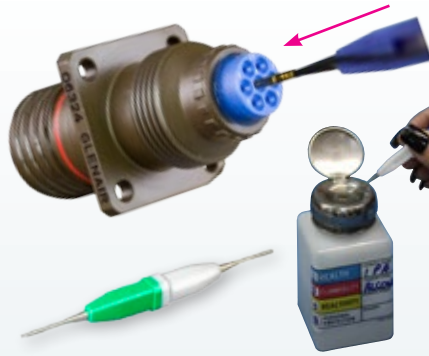

Fig. 17
3. Shrink Boots: Installation of environmental shrink boots requires careful attention to ensure heat-activated adhesives effectively seal the wire-to-connector interface. Complete instructions are found in our boot catalog. The failure to carefully clean and/or abrade cable jacketing is a common source of leakage, as is the failure to apply continuous heat to the work (90 to 150 seconds depending on boot size) after the boot has fully recovered to the cable. Some boots are equipped with a potting port feature to facilitate potting of the wire-to-connector interface. Inspection under axial load (see Fig. 17) is essential as a final check of bond strength.